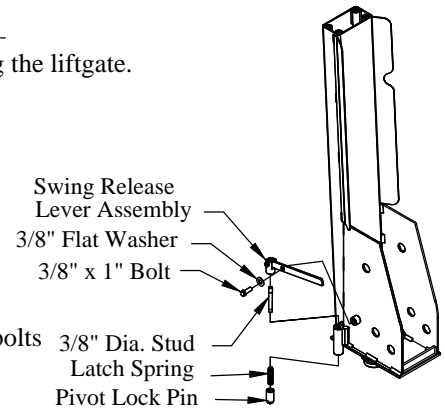

Figure 5: Swing release latch.
- 1. Install** the swing release latch assembly (Figure 5). This must be done before mounting the liftgate.